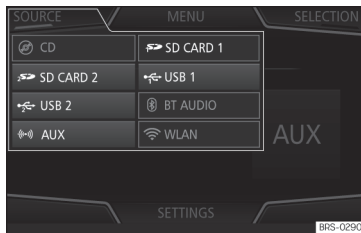

Fig. 197 MEDIA mode: change media source.
- **OR:** From the *Media* main menu, press the **SOURCE** function button **»»» Fig. 197** and select the desired media source.